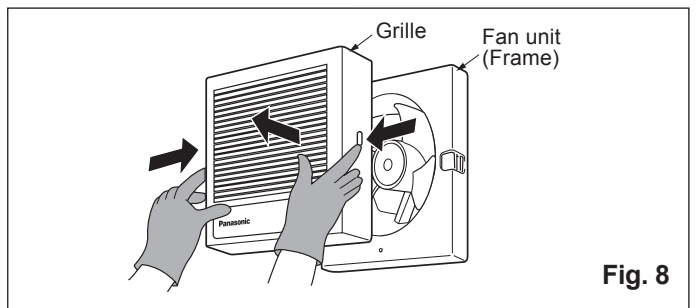

Fig. 8
- Remove the grille from the fan unit. Press the spring locks on the sides and pull the grille back. (Fig. 8)
12. Remove the grille from the fan unit. (Fig. 8 on page 6)